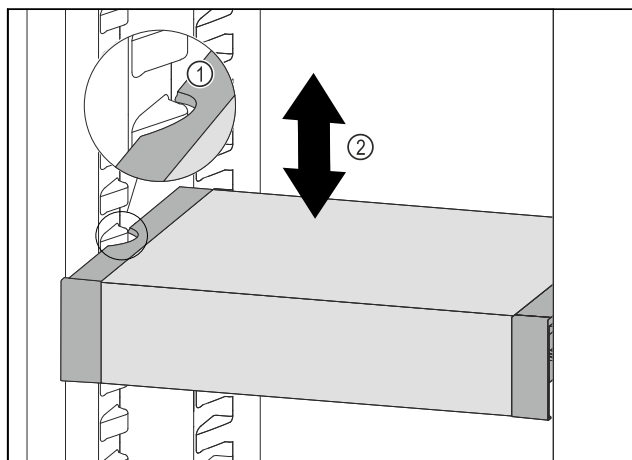

Fig. 171
- Pull VarioSafe forwards until the recesses in the side of the VarioSafe are at the level of the support rib in the refrigerator compartment. *Fig. 171 (1)*
- Move VarioSafe up or down in the refrigerator compartment until the desired height is reached. *Fig. 171 (2)*